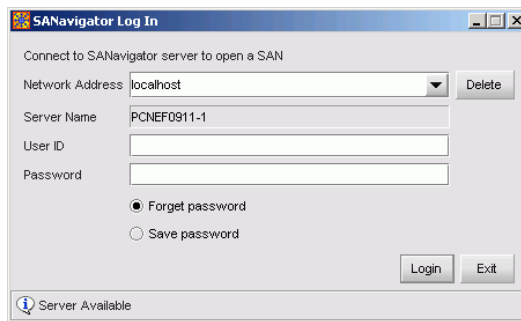

Figure 3-21 SANavigator Login or EFCM Login Dialog Box
- d. After rebooting the server at the LCD panel, log on to the management server's Windows 2000 desktop through a LAN connection to a browser-capable PC. Refer to Access the Management Server Desktop on page 2-55 for instructions. The SAN management application starts and the *SANavigator Log In* or *EFCM Log In* dialog box displays (Figure 3-21).